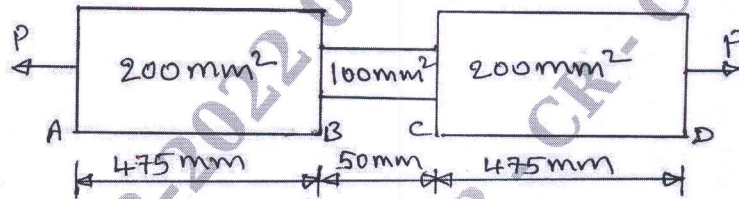

Fig. Q9 (b)
b. The maximum stress produced by a pull in a bar of length 1 m is 150 N/mm^2 . The area of the cross sections and length are shown in Fig. Q9 (b). Calculate the strain energy stored in the bar of $E = 2 \times 10^5 \text{ N/mm}^2$. (10 Marks)